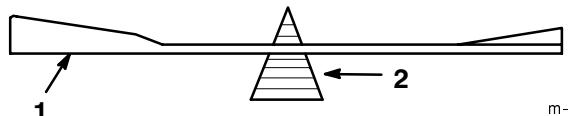
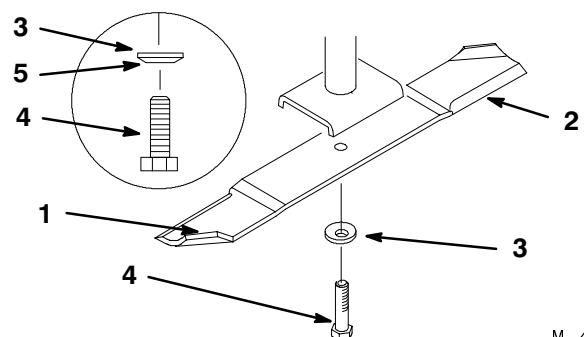

Figure 22
Figure 23
1. Hold the blade end using a rag or thickly-padded glove. Remove the blade bolt, spring disk and blade from the spindle shaft (Fig. 23).
2. Check the balance of the blade by putting it on a blade balancer (Fig. 22). If the blade stays in a horizontal position, the blade is balanced and can be used. If the blade is not balanced, file some metal off the end of the sail area only (Fig. 23). Repeat this procedure until the blade is balanced.
1. Install the blade onto the spindle shaft (Fig. 23).
2. Install the spring disk and blade bolt (Fig. 23). **Torque the blade bolt to 85-110 ft-lb (115-150 N·m).**